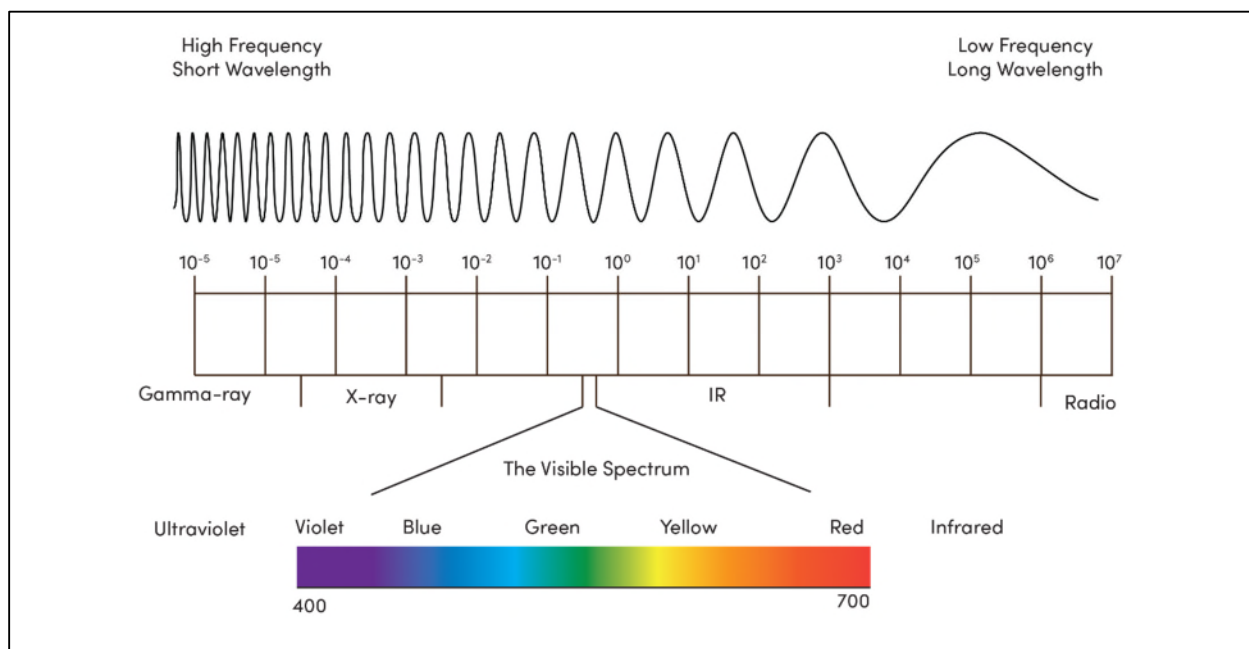

Figure 4. The Electromagnetic Spectrum
- Define linearly polarized light as light whose vibration direction is in a plane. *[Here you might use the graphic (Fig. 4) that shows the spectrum from radio to gamma rays with low frequency, long-wavelength and high-frequency, short-wavelength radiation.]*